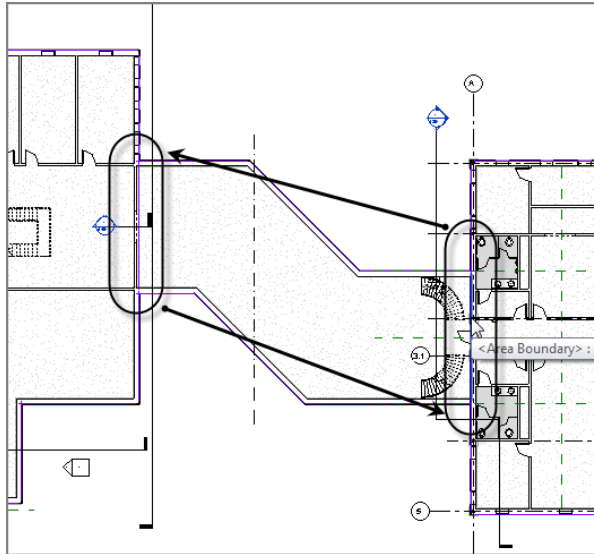

FIGURE 15.25: Separating the areas
6. Draw a line, as shown in Figure 15.25, separating the corridor from the east wing.